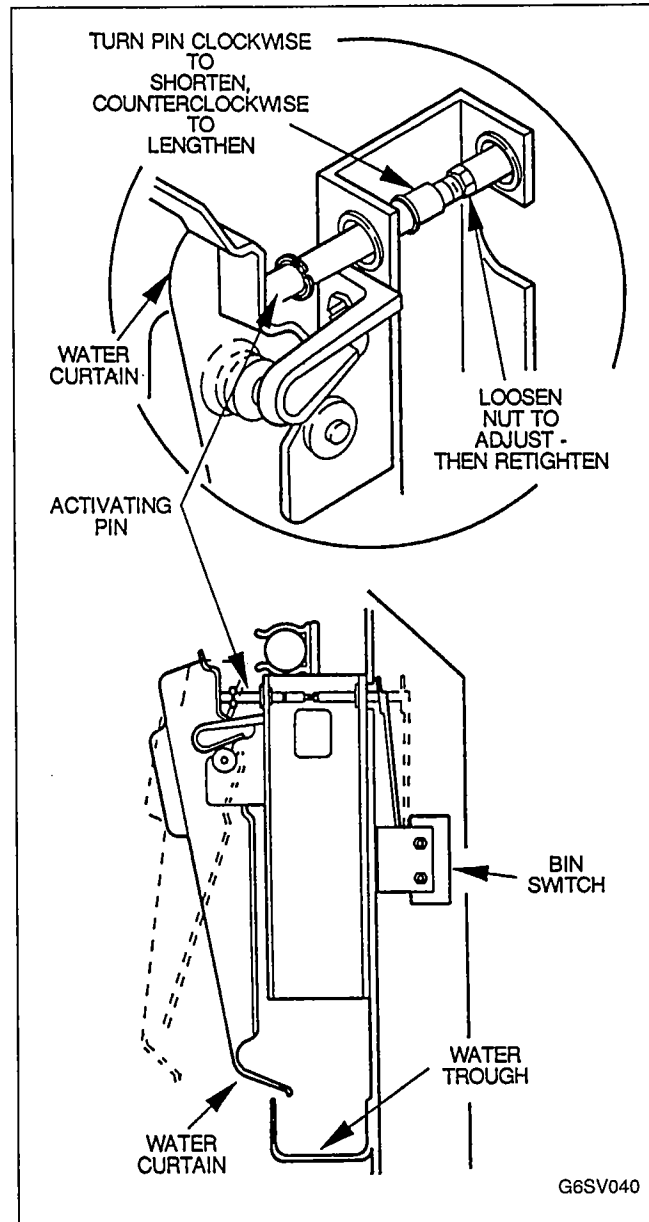

FIGURE 38. BIN SWITCH ACTIVATING PIN ADJUSTMENT
1. Pull water curtain away from evaporator until ice machine shuts off, Figure 38. (Remote machines, wait for ice machine to pump down.)
4. Bin switch pin adjustment (see Figure 38):